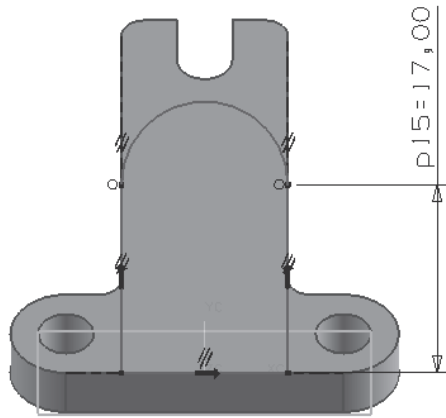

Figure 4-63 Sketch for the second feature
- Draw the sketch of the next extrude feature using the new datum plane and extrude it using the **Unite** boolean operation, refer to Figures 4-63 and 4-64.
4. Draw the sketch of the second feature, as shown in Figure 4-63. You will have to apply collinear constraints between the lines in the sketch and the edges of the base feature to place the sketch at the proper location.